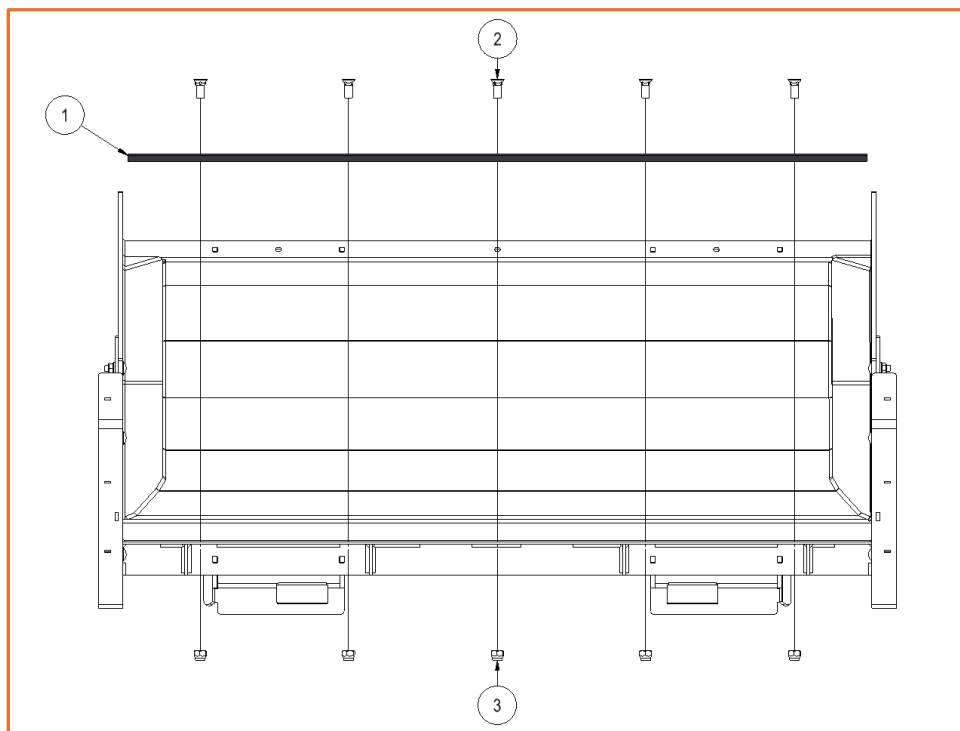

Figure 5-1 View from the bottom.
2. Remove the nuts from the backside of the existing metal blade. Refer to Figure 5-1 for a detailed view.
4. Place the UHMW blade (1) and blade backer (2) on the moldboard.
5. Place the new bolts, 5/8-11 -2.75" carriage bolt (3), through the blade backer (2), UHMW blade (1), and moldboard.
6. Place the nuts (4) on the bolts and tighten them.